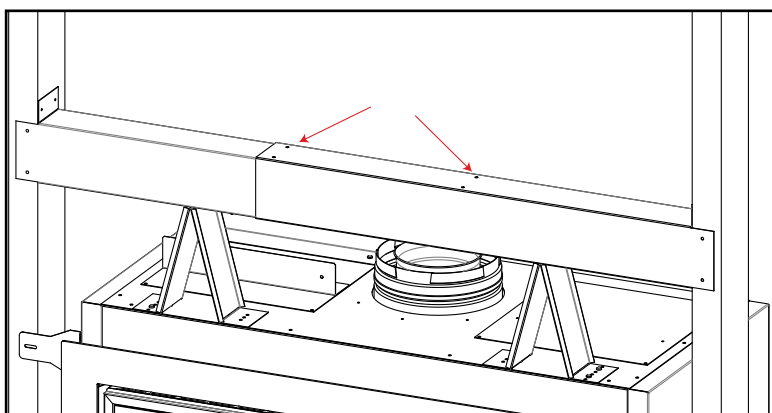

Figure 31: Steel Stud Attachment
- Using the provided sheetmetal screws, attach the two steel stud pieces together using the labeled holes in Figure 31. This should be done on the top and bottom of the steel stud to ensure its rigidity.